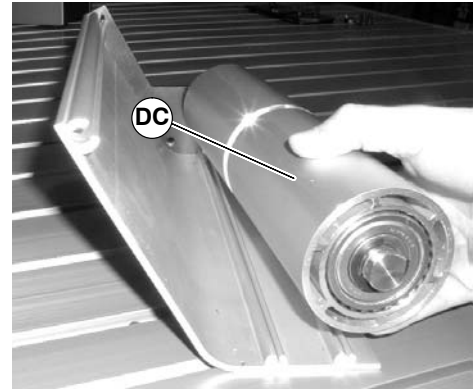

Figure 91
5. Slide the idler pulley assembly (DC of Figure 91) out of the idler guide side plate on the opposite side.